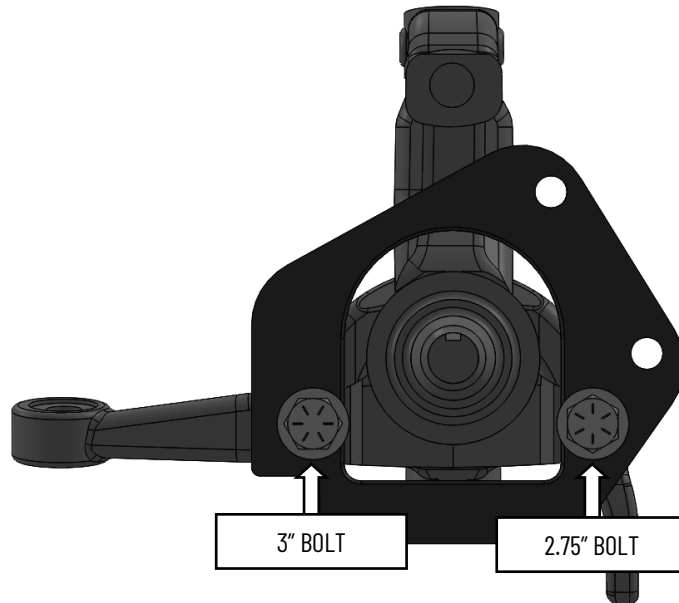

Figure 2. Base bracket installed on left (driver's side) spindle
6. The caliper position will be behind the spindle pin centerline. Install the base brackets to the spindle using the supplied 1/2-20 x 3" and 1/2-20 x 2.75" bolts and locking nuts. The longer (3") bolt will be inserted in the steering arm hole closest to the tie rod attaching point. Torque both bolts to 110 ft-lbs. to secure the base bracket to the spindle. See Figure 2 below for reference.